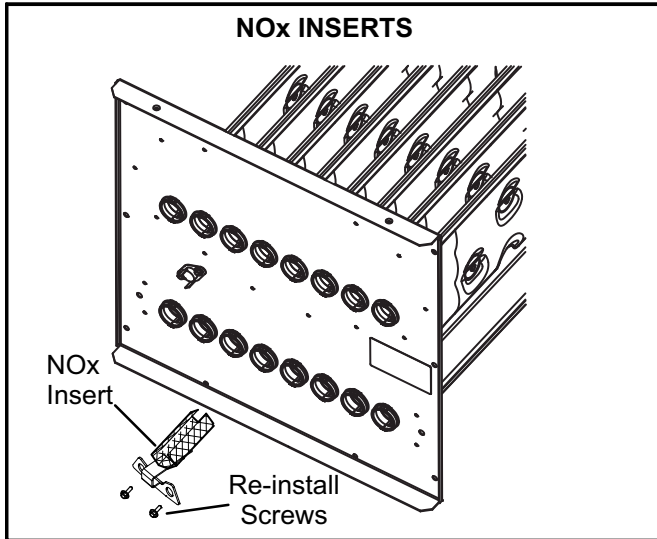
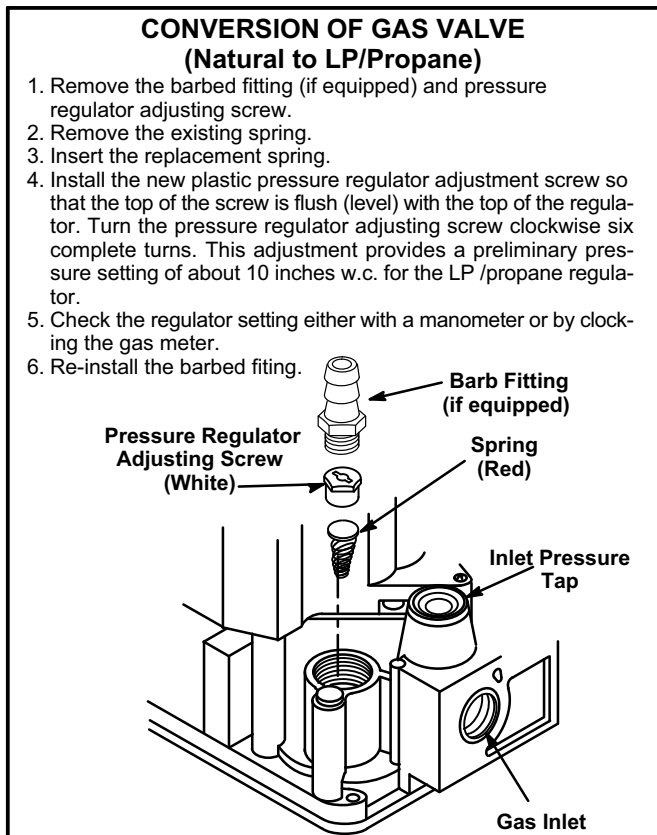

FIGURE 1
FIGURE 6
- 6 - Replace the gas valve regulator spring. See figure 6.
- 7 - **ML180(X), EL180(X) and 80AF1(X) NO_x units being converted from natural to LP /Propane.**
- b - Remove the screw which secures each of the NO_x inserts to the clamshell. **Remove the NO_x insert and reinstall the screw. See figure 1.**